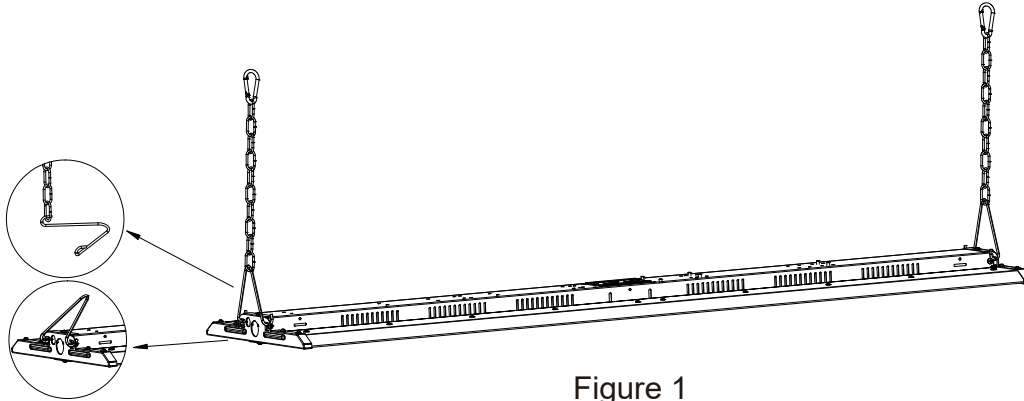

Figure 1
Step1. Hook up the chain(Figure 1);
Step2. Connect the chain with fixture(Figure 1);
Step3. Fix the chain on the rail, adjust the chain length as per need(Figure 1);